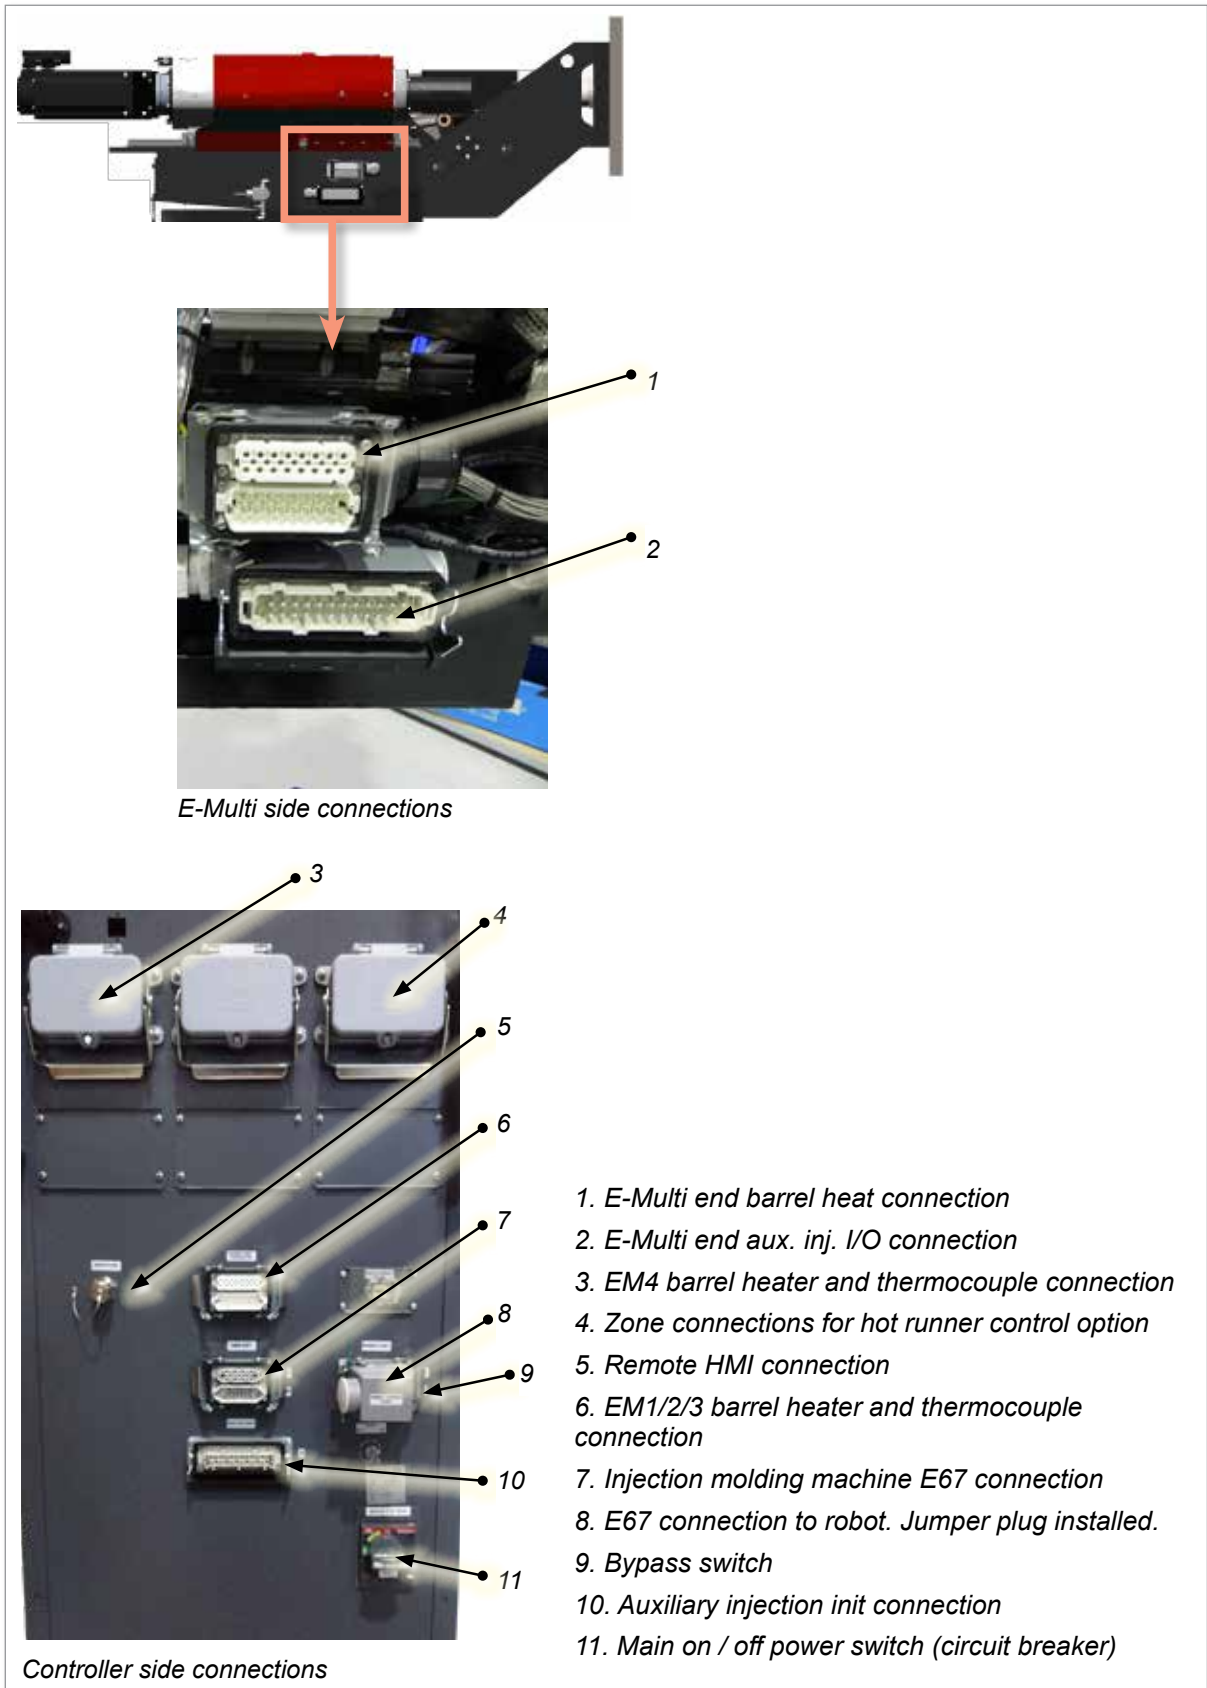

Figure 7-4 E-Multi connection locations
- Connect the “CONTROLLER END” of the cables to the “BARREL HEAT CONNECTOR” and “AUX INJ. UNIT” connectors on the controller. See Figure 7-4 on page 7-3.
If no robot is used, connect the robot jumper plug to the “ROBOT E67” connector on the controller (see Figure 7-4 on page 7-3).
E-Multi units are available with optional handheld Human Machine Interface (HMI) units to allow control of the E-Multi injection unit when access to the controller is inconvenient. The handheld HMI connects to the “HANDHELD HMI” connector on the controller (see Figure 7-4 on page 7-3).